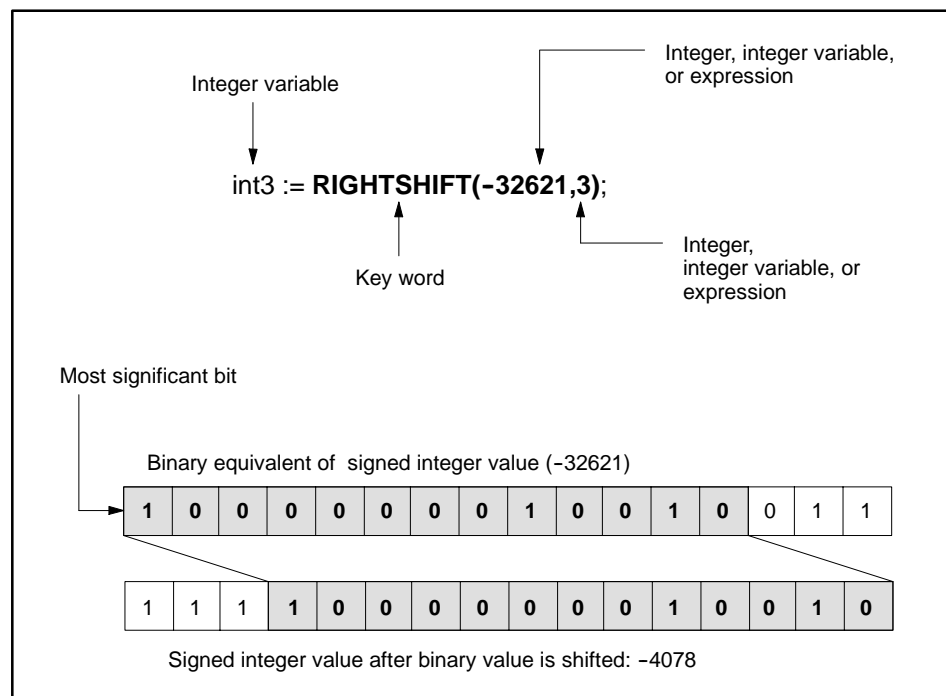

Figure 11-43 RIGHTSHIFT Function
- The returned integer value is the decimal equivalent of the binary value that results from the shifting of the bits. For example, in Figure 11-43, the value of the variable, `int3`, is -4078.